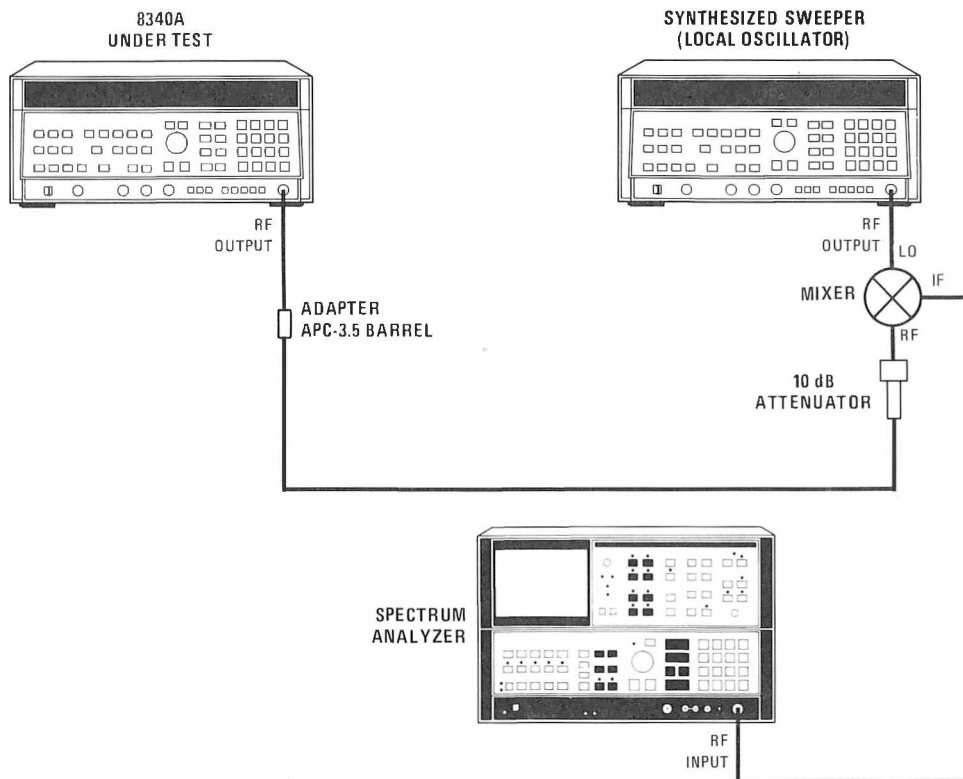

Figure 5-56. Leveled Squegging Test Setup.
46. Connect equipment as shown in Figure 5-56. Connect the mixer LO input port directly to the LO 8340A RF output connector to obtain maximum mixer LO input level. Allow at least 30 minutes warm up time.